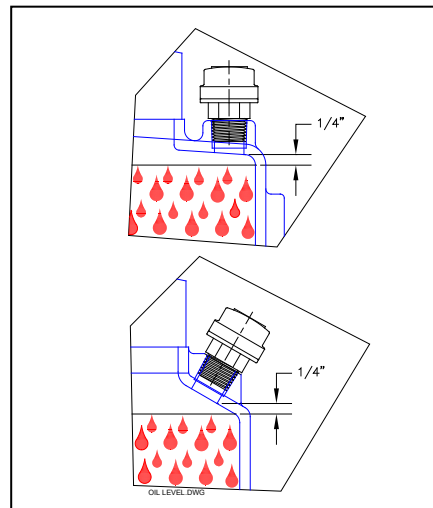

FIGURE 1A
1.0.12 Set capacity knob to zero and remove Air Bleed Plug from the top of Oil Chamber, refer to drawings HP-1102 (page 22) for Series 500 and drawing 5024 (page 28) for Series 500-A and 500-E for location of plug. Fill gear box and pump by pouring the hydraulic fluid supplied through the fill opening at the rear of the pump. Pour fluid in slowly until it has reached the correct level per Figure 1A. Do not over fill as this can cause damage to the motor.